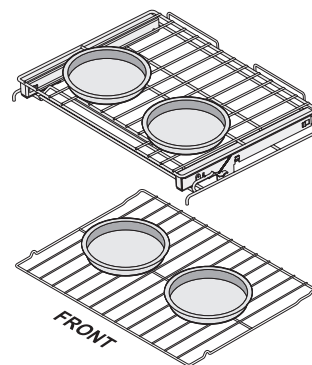

Figure 11: Pan placement for best results
- When baking cakes using two oven racks place bakeware in positions 1 (flat) and 4 glide/5 flat and place bakeware as shown in Figure 11.